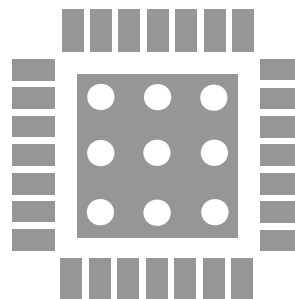

FIGURE 28. ISL97687 TQFN PCB VIA PATTERN
2. Figure 28 shows important traces of current sensor (RS) and OVP resistors (RU, RL). The current sensor track line should be short, so that it remains as close as possible to the Current Sense (CS) pin. Additionally, the CS pin is referenced from the adjacent PGND pin. It is extremely important that this PGND pin is placed with a good reference to the bottom of the sense resistor. In Figure 28 you can see that this ground pin is not connected to the thermal pad, but instead used to effectively sense the voltage at the bottom of the current sense resistor. However, this pin also takes the gate driver current, so it must still have a wide connection and a good connection back from the sense resistor to the star ground. Also, the RC filter on CS should be placed referenced to this PGND pin and be close to the chip.
Figure 28 shows an example of how to use vias to remove heat from the IC. We recommend you fill the thermal pad area with vias. A typical via array would be to fill the thermal pad foot print with vias spaced such that the centre to centre spacing is three times the radius of the via. Keep the vias small, but not so small that their inside diameter prevents solder wicking through the holes during reflow.